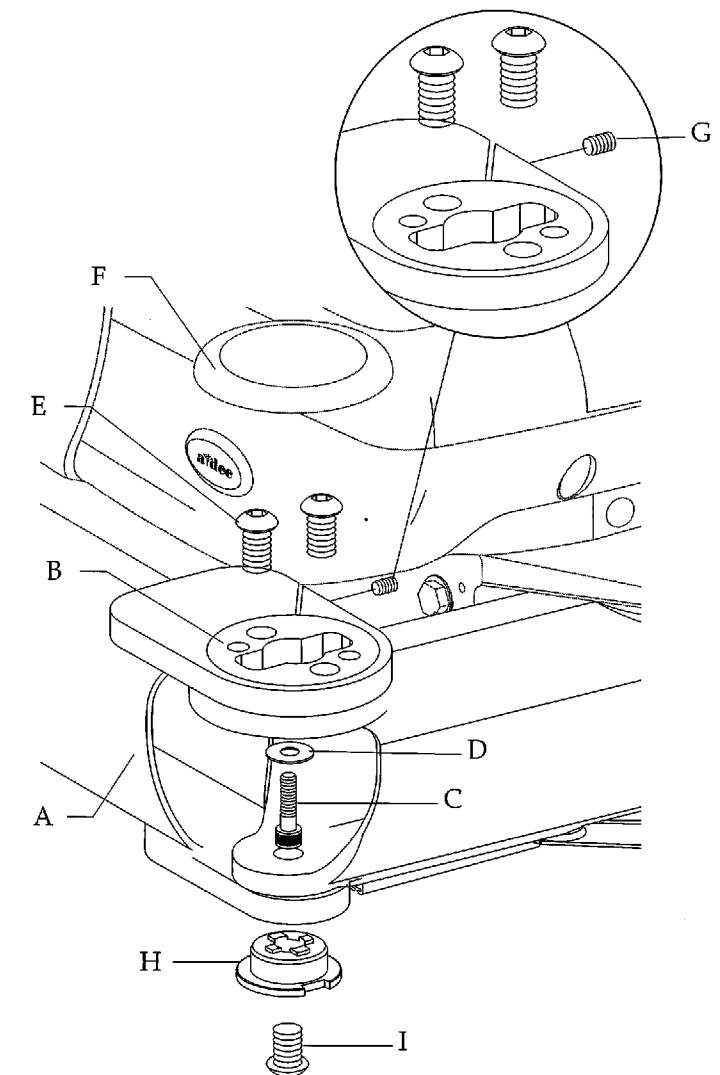

Figure 39. Mounting the lower support arm.
2. Slide the lower support arm over the support link (see Figure 39).